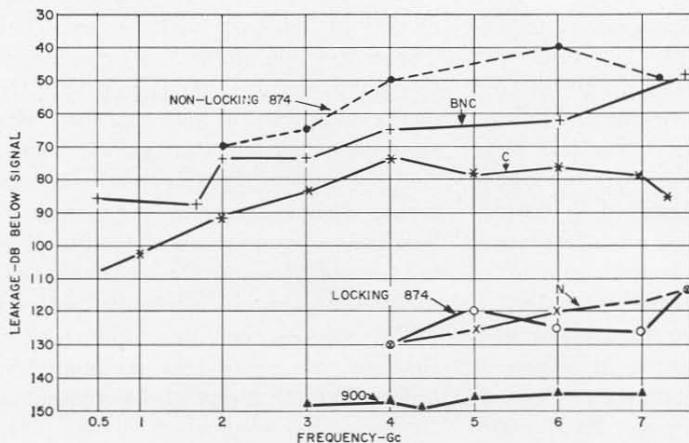

Figure 6. Leakage of coaxial connectors as a function of frequency.
attenuator and recovered at the output connector, causing an erroneous indication of attenuation. The leakage of the TYPE 900 Connector is compared with that of other types of connectors in Figure 6, and is lower than that of any other commonly used coaxial connector.⁴ This is due to the triple shielding action of (1) the butt contact of the outer conductors, (2) the interlocking and overlapping of the centering gear rings, and (3) the outer locking nut.